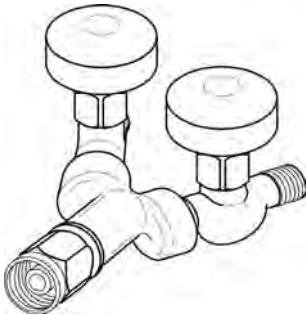

Figure 7.22 *Y” high pressure DISS 1290 adapter*
3. Use a calibrated 0-150 psi regulator, a wall or cylinder supply of medical oxygen, and a “Y” adapter (Figure 7.22). Attach the “Y” adapter to the regulator.